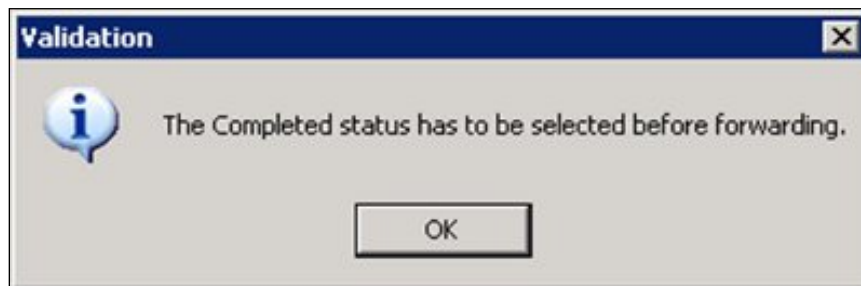

Figure 7-56: Completed Status Validation Message
15. On the bottom left part of the tab, click the COMPLETE WORK STEP button. If the NEPA Documentation Review process is not complete, the Completed Status validation message is displayed (Figure 7-56).